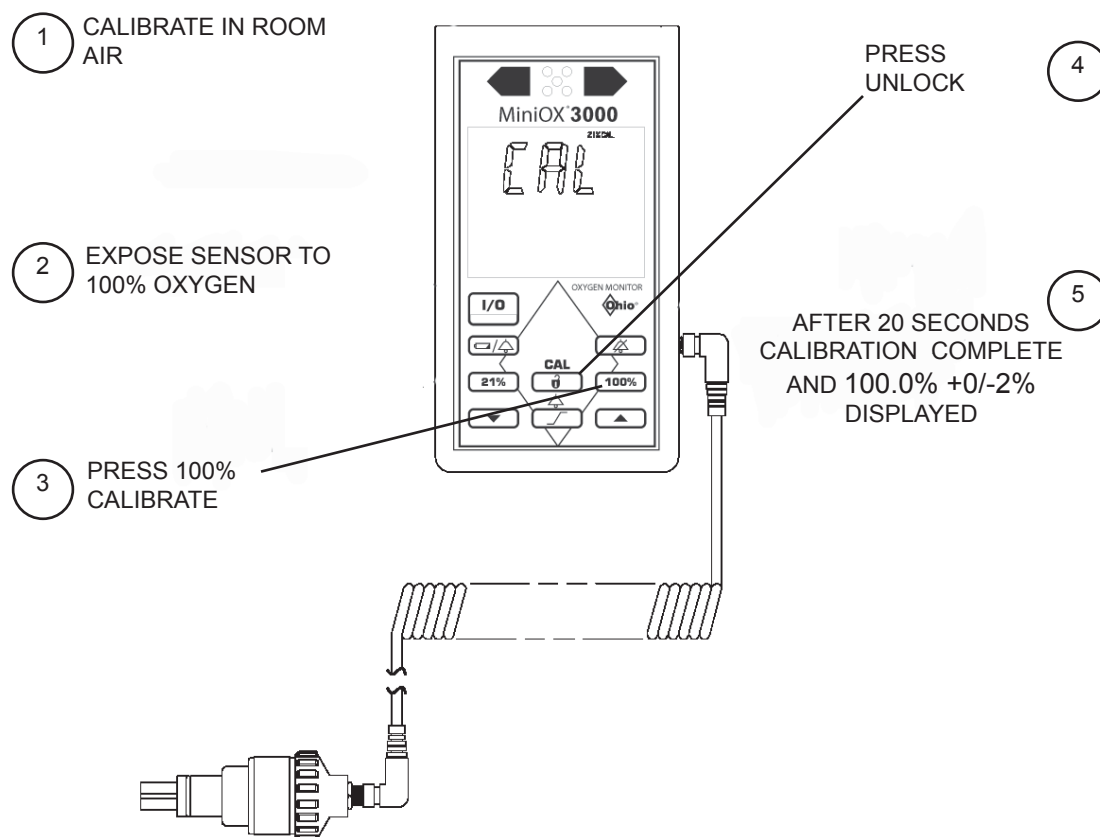

Figure 3-2
- To Calibrate at 100% O_2 (Figure 3-2):**